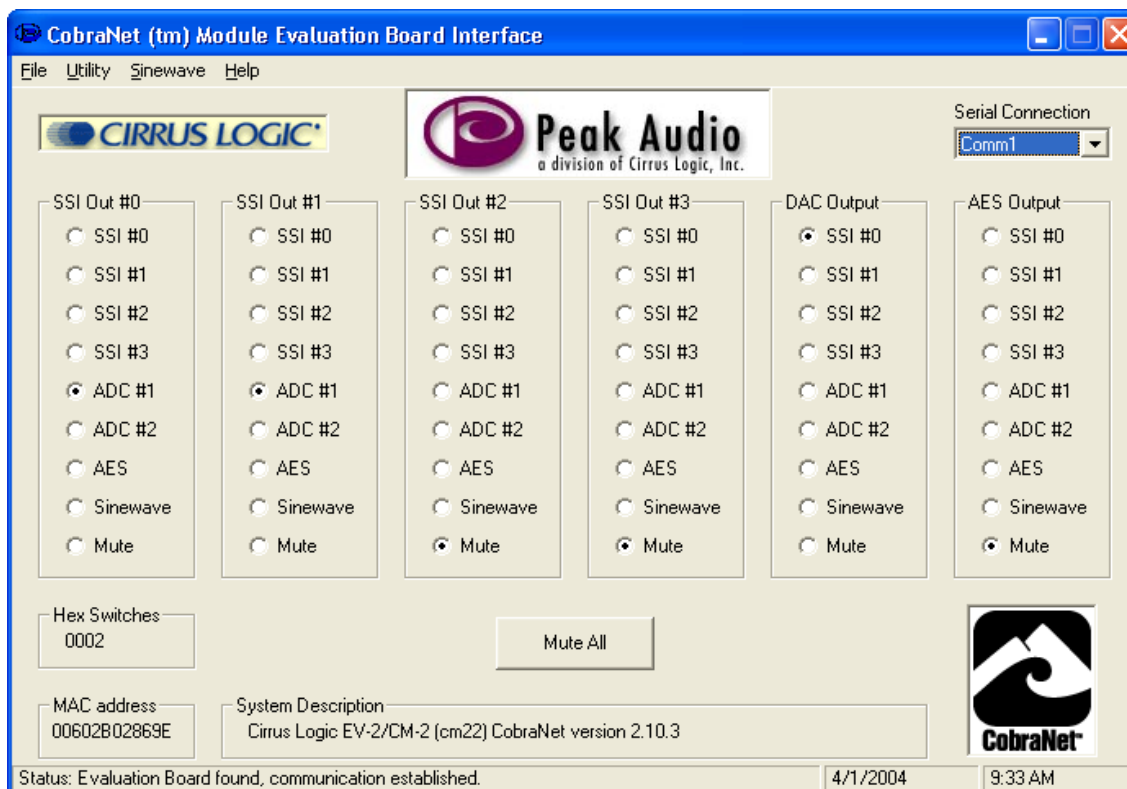

Figure 7. Screen Shot of EV-2 Software
- Once communication is established, the routing can then be configured. (See *Figure 7* below for an example of a routing scheme.)